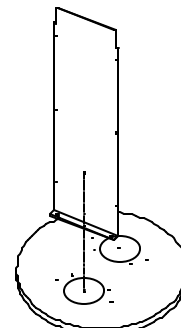

Figure 2
Step 6: Locate the (2) frame ends. Install each end separately. Locate the predrilled holes (fig. 2). Insert (1) #6 screw into the middle hole in the frame end. Align it with the hole (the middle of the (3) for original systems only) and screw it down to the base. **Do not tighten this screw down so tight that the end cannot be rotated slightly.** Repeat this step for the second frame end. In original systems, do not use the remaining (4) holes in the base. They were used for alignment, but are no longer necessary.